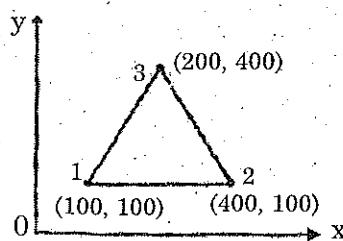

Fig. 2
14. (a) For a plane stress element shown in Fig.2, the nodal displacements $((u_1, v_1), (u_2, v_2)$ and (u_3, v_3)) are $((2, 1), (1, 1.5)$ and $(2.5, 0.5)$ respectively. Determine the element stress. Assume $(E = 200 \text{ GN/m}^2, \mu = 0.3$ and $t = 10 \text{ mm}$) all coordinates are in millimeters.